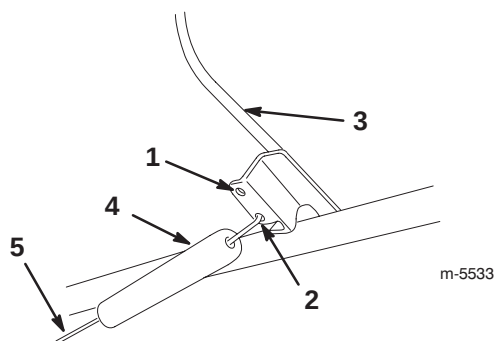

Figure 5
4. Insert the loose end of the control cable into the bottom hole in the control bar (Fig. 5).